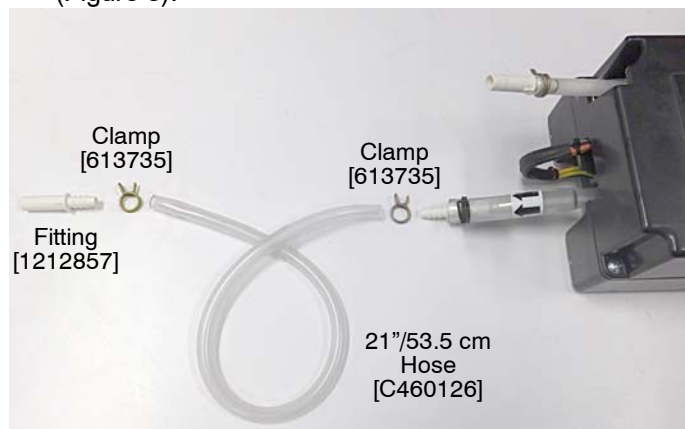

Fig. 3
2. Install the 21"/53.5 cm length hose, hose fitting and clamps to the ec- H2O module outlet hose as shown (Figure 3).